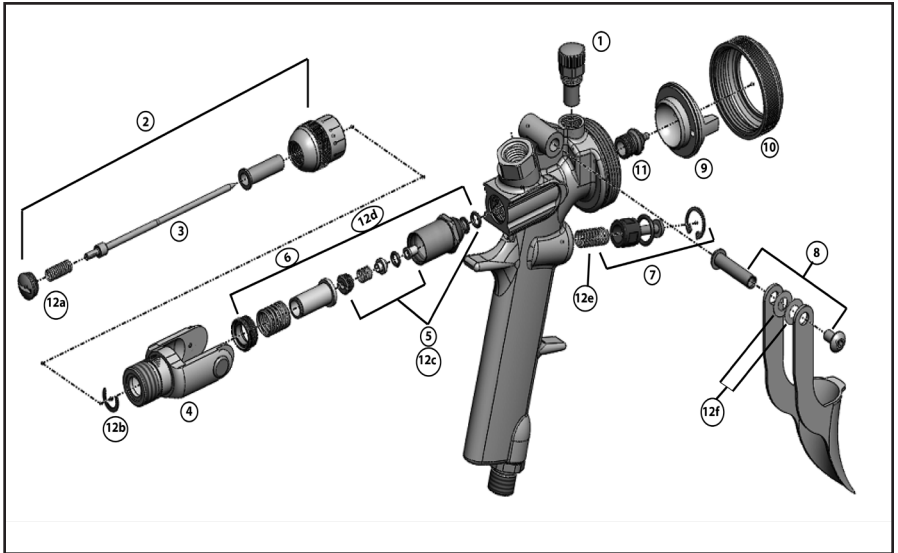

**Figure 16: Exploded View of Fluid Needle Assembly**
3. Remove the needle cap (# 5 in Figure 16).